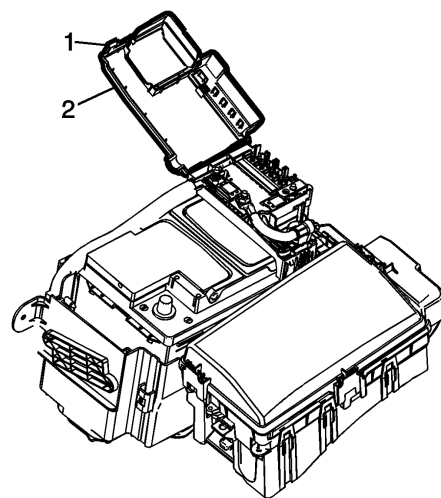

Fig. 2 Battery fuse block cover
5. Open battery fuse block cover (2) with release tab (1), **Fig. 2**.
8. Close cover (2) on battery fuse block, **Fig. 2**.